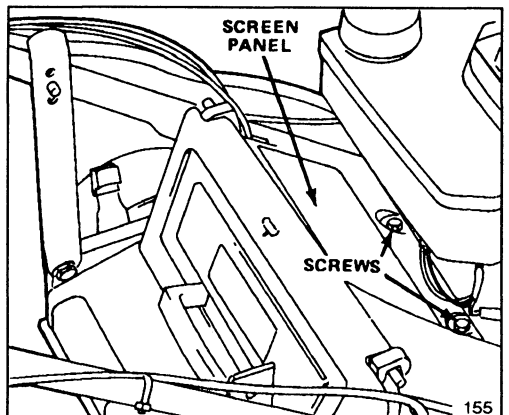

Figure 23
2. Remove (2) screws securing screen panel to top of mower housing (Fig. 23). Remove panel.